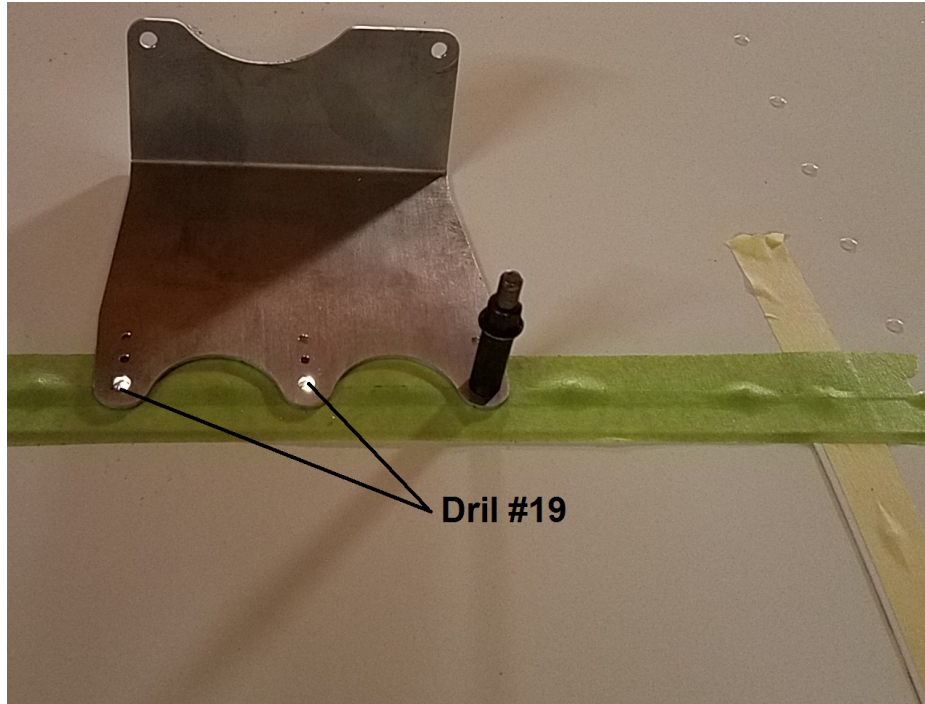

Figure 3-3
- 2.3. Invert the Cessna 18X Upper Roll Bracket (P/N 1450-127) on the upper wing skin and cleco the inner hole on the bracket to the hole drilled in the previous step. Rotate the bracket so that the middle and outer bracket mounting holes are aligned with the row of rivets in the rear wing spar as shown in Figure 3-3.
- 2.4. Match drill 2 holes as shown in Figure 3-3.